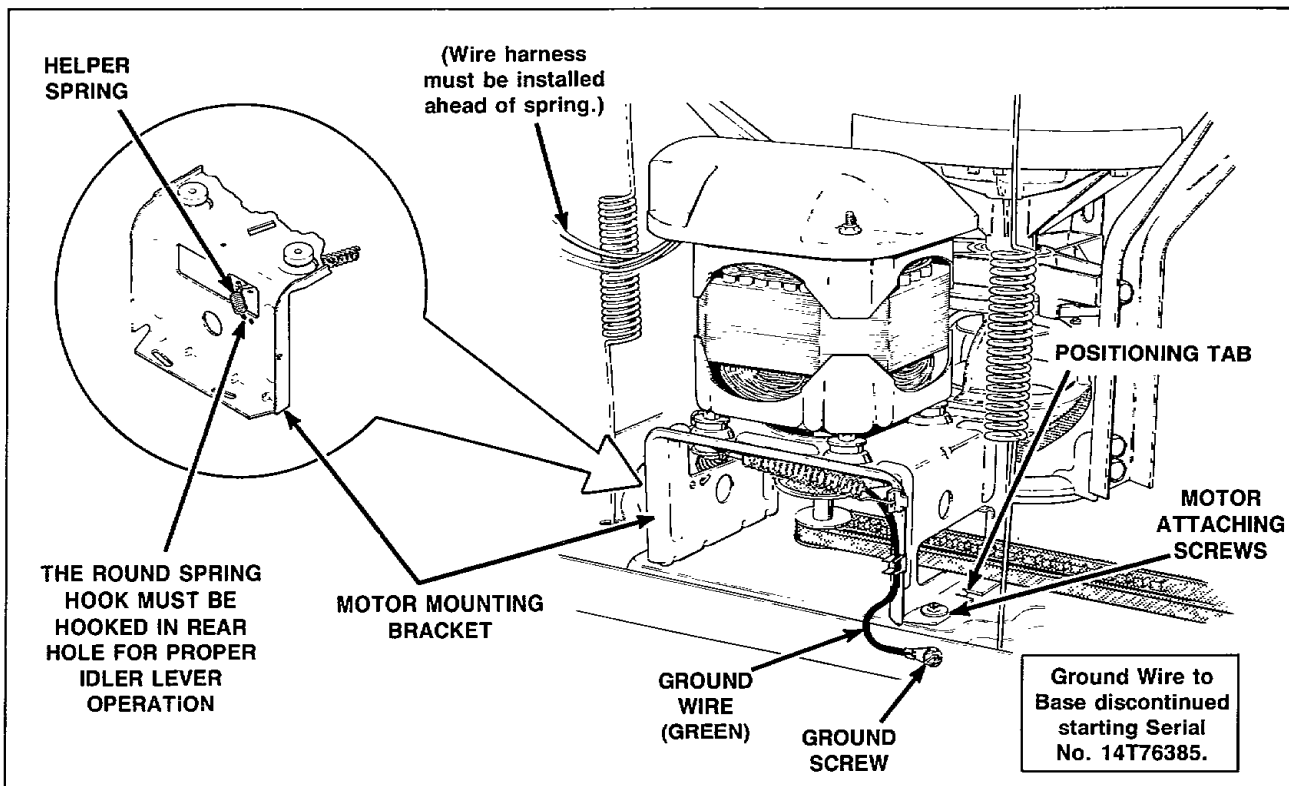

Figure 23
- d. Through Serial No. 14T76385: Remove screw holding ground wire to washer base, *Figure 23*.
- e. Remove four screws holding motor and mounting bracket to washer base, *Figure 23*, then lift complete assembly out of washer.